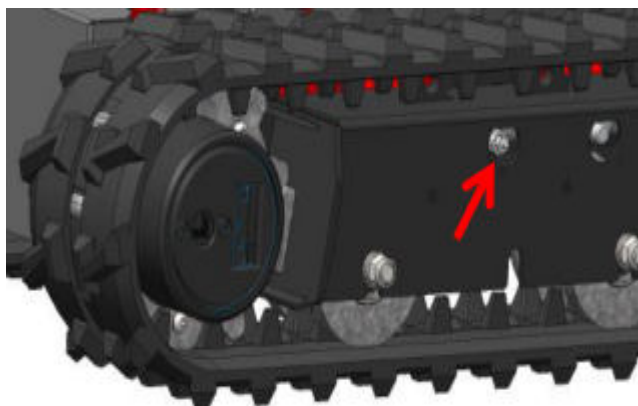

Figure 4.2 Tensioning crawler tracks
9. Tension the crawler tracks by fitting the grease gun to the grease nipple in the middle of the track beams (see *Figure 4.2*) and pumping until you feel resistance from the grease gun. The crawler tracks must not be too tight.